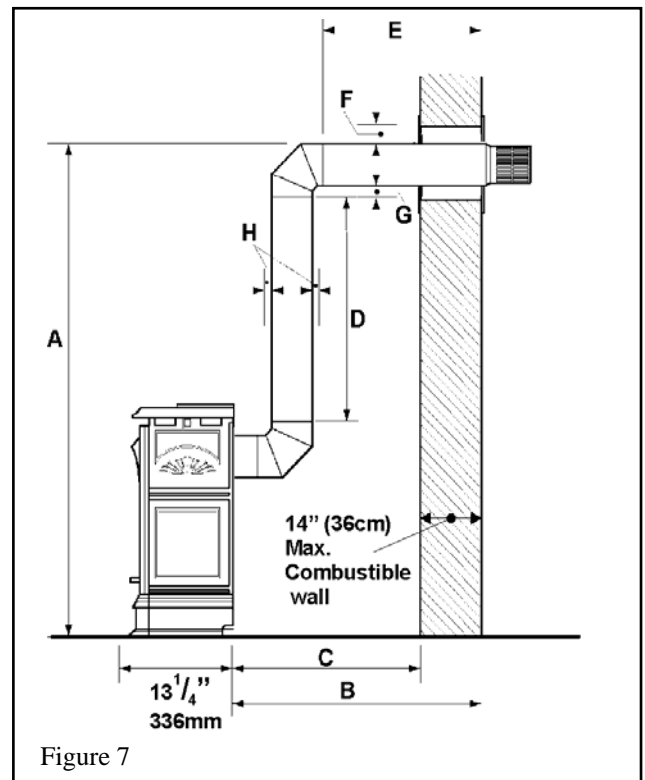

Figure 7
4.2.3. Rear vent connection, vertical vent rise with horizontal termination (Fig. 7)
The location requirements are (See figure 7):-
For “semi-basement” situations where vertical vent rise does not raise horizontal termination sufficiently above ground level. The dimensional requirements in section 4.2.3 and figure 7 apply.
4.2.6. Corner location, rear vent connection, vertical rise, horizontal termination (Figs 7 & 9)